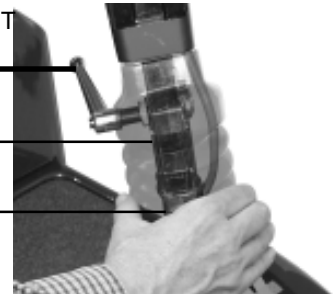

Figure 8a. Adjusting the Tiller Angle
1. Turn the tiller adjustment lever counterclockwise until it is loose. If the tiller adjustment lever comes in contact with the tiller basket, pull it outward, turn it clockwise, and release it. Continue to loosen until the tiller is able to move. See figures 8A and 8B.
8. Turn the tiller adjustment lever counterclockwise until it is loose. Pull the rubber boot upward to expose the tiller release buttons. With one hand on the rear of the tiller, carefully depress both tiller release buttons while slowly lowering the tiller to the center of the floorboard. See figure 8A.